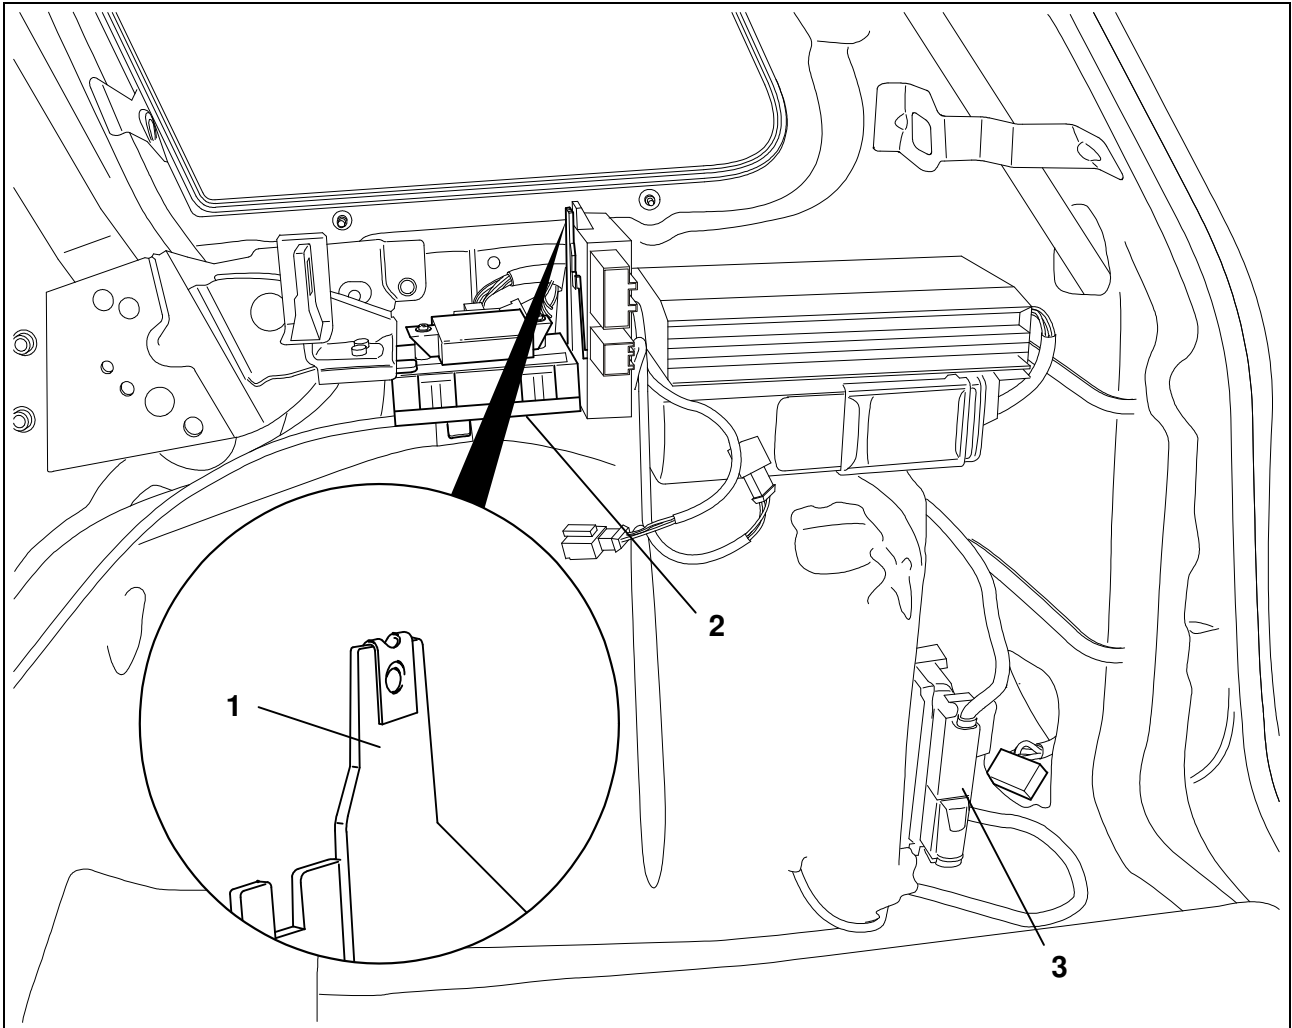

Fig. 3: Connecting the trailer control module
9. Fasten the trailer control module to the component carrier (Fig. 3/1) in the right-hand corner of the luggage trunk using a snap nut and a hexagon head bolt.
12. Fasten the brown wires at the vehicle's ground point in the coupling area at the rear right-hand side (Fig. 3/3) using the two eyelets.
13. Loosen the fastening bolt at the component carrier which fastens the vehicle's rear control unit 7L0 959 933A (Fig. 3/2) and carefully pull the component carrier out.